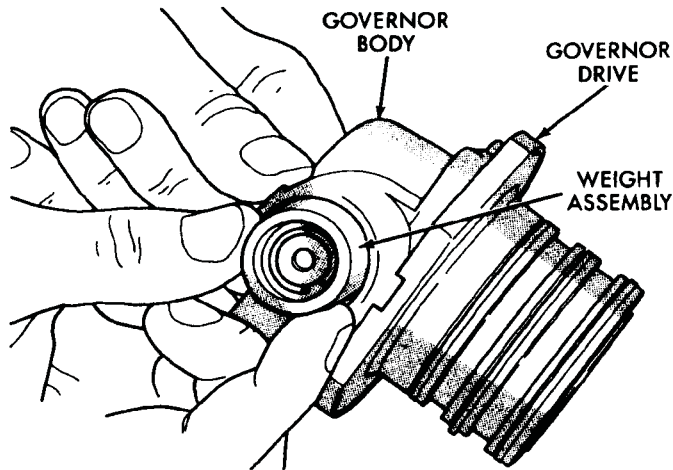

Fig. 66 Installing Governor Weight Assembly
(4) Install governor weight assembly in governor body (Fig. 66).